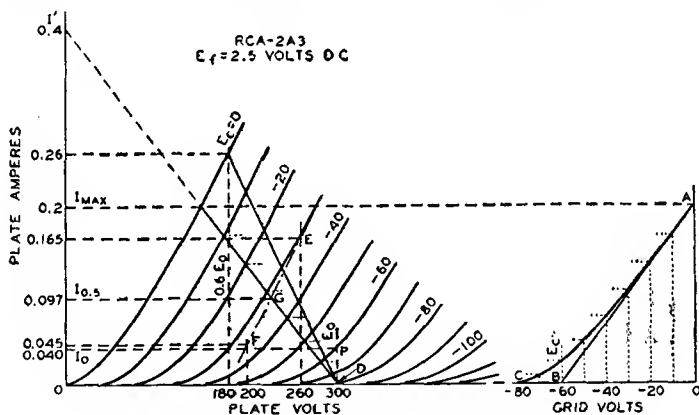

Fig. 24
In class AB1 push-pull amplifier service using triodes, the operating conditions may be determined graphically by means of the plate family if  $E_o$ , the desired operating plate voltage, is given. In this service, the dynamic load line does not pass through the operating point P as in the case of the single-tube amplifier, but through the point D in Fig. 24. Its position is not affected by the operating grid bias provided the
In general, for any load line through point D, Fig. 24, the plate-to-plate load
**Example:** Fig. 24 illustrates the application of this method to a pair of 2A3's operated at  $E_o = 300$  volts. Each tube has a plate-dissipation rating of 15 watts. The method is to erect a vertical line at  $0.6E_o$ , or at 180 volts, which intersects the  $E_c = 0$  curve at the point  $I_{max} = 0.26$  ampere. Using the simplified formulas, we obtain
The operating bias and the zero-signal plate current may now be found by use of a curve which is derived from the plate family and the load line. Fig. 25 is a curve of instantaneous values of plate current and dc grid-bias voltages taken from Fig. 24. Values of grid bias are read from each of the grid-bias curves of Fig. 24 along the load line and are transferred to Fig. 25 to produce the curved line from A to C. A tangent to this curve, starting at A, is drawn to intersect the grid-voltage abscissa. The point of intersection, B, is the operating grid bias for fixed-bias operation. In the example, the bias is -60 volts. Refer back to the plate family at the operating conditions of plate volts = 300 and grid bias = -60 volts; the zero-signal plate current per tube is seen to be 0.04 ampere.
As in the case of the push-pull class A amplifier, the second-harmonic distortion in a class AB1 amplifier using triodes is very small and is largely canceled by virtue of the push-pull connection. Third-harmonic distortion, however, which may be larger than permissible, can be found by means of composite characteristic curves. A complete family of curves can be plotted, but for the present purpose only the one corresponding to a grid bias of one-half the peak grid-voltage swing is needed. In the example, the peak grid voltage per tube is 60 volts, and the half value is 30 volts. The composite curve, since it is nearly a straight line, can be constructed with only two points (see Fig. 24). These two points are obtained from deviations above and below the operating grid and plate voltages.
long-short dash line in Fig. 24. At the intersection of the composite curve and the load line, G, the instantaneous composite plate current at the point of one-half the peak signal swing is determined. This current value, designated  $I_{0.5}$  and the peak plate current,  $I_{max}$ , are used in the following formula to find peak value of the third-harmonic component of the plate current.